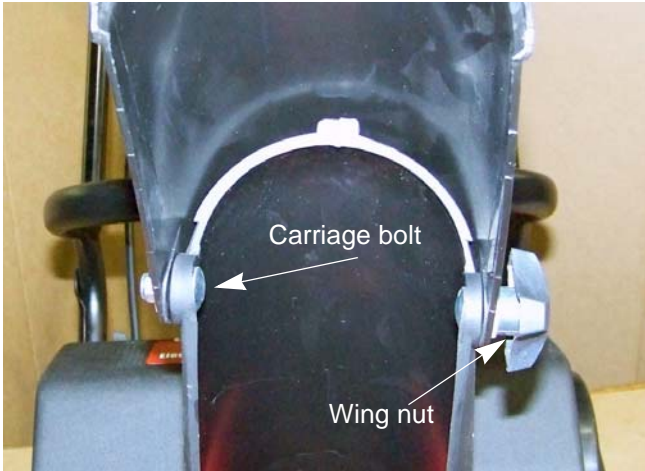

Figure 4.6
2. Remove the lock nut and carriage bolt that attach the upper chute to the lower chute using a 10mm wrench. See Figure 4.6.